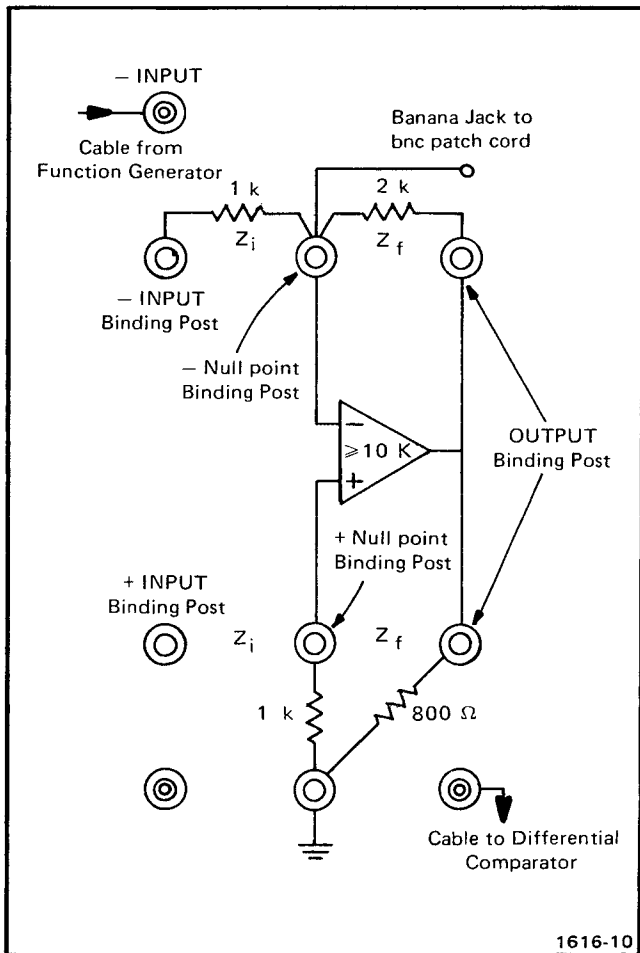

Fig. 2-1. Operational amplifier connected to check open loop gain.
- c. Connect the 800 Ω, 2 k, and the two 1 k resistors to the terminals of the AM 501 as illustrated in Fig. 2-1.